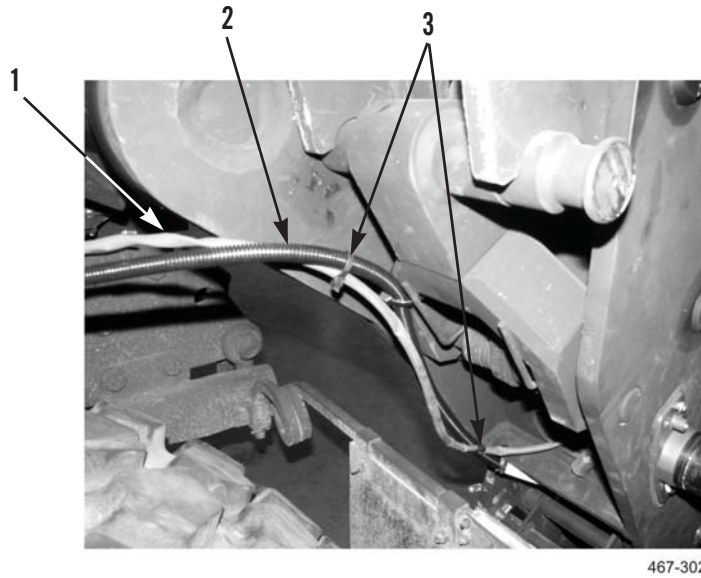

Figure 66. Tiedown Strap Installation.
32. Route wire extension (Figure 66, Item 1) along sensor harness (Figure 66, Item 2) and install new tiedown straps (Figure 66, Item 3) as required.